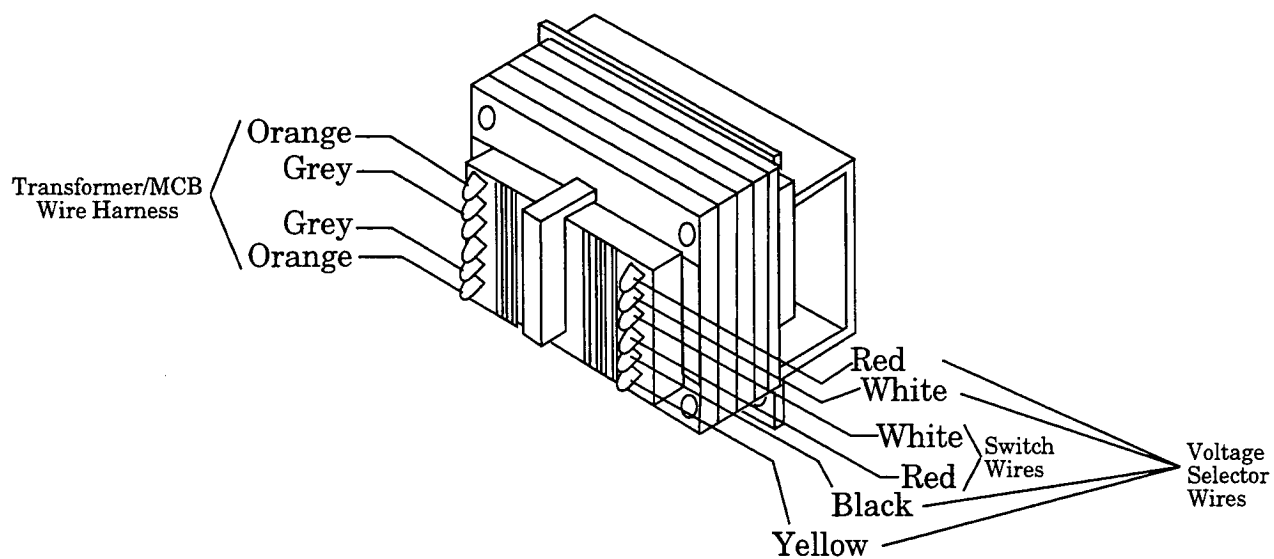

Figure 6-12
Step 2 Connect the wire plugs to the terminal, being careful to connect the plugs to the same terminals as on the original transformer. See Figure 6-12.